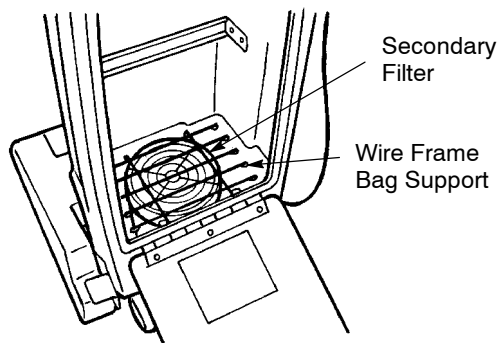

FIG. 8
1. Clean secondary filter weekly. Filter is located below vacuum bag area (*Figure 8*).